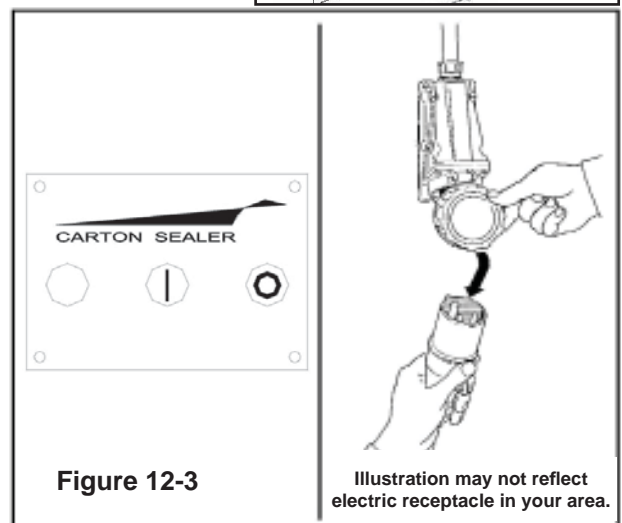

Figure 12-3
Turn the main switch ON (I) after the EMERGENCY BUTTON is released (**Figure 12-3**).
Before carrying out any cleaning or maintenance operation, stop the machine by turning OFF (O) switch on the main and disconnect electric power (**Figure 12-3**).